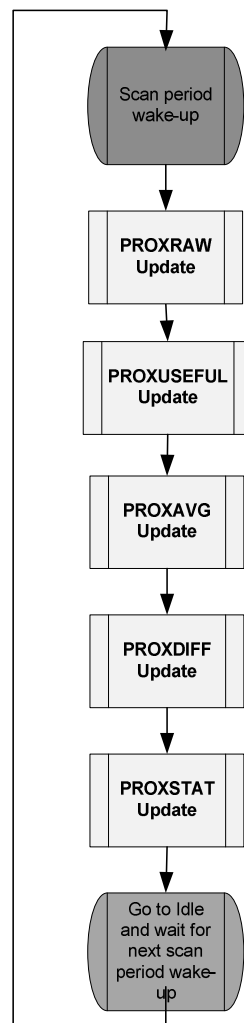

Figure 13: Digital Processing Sequencing
The format of the I2C read is given in Figure 13. After the start condition [S], the slave address (SA) is sent, followed by an eighth bit ('0') indicating a Write. The SX9500 then Acknowledges [A] that it is being addressed, and the Master responds with an 8-bit Data consisting of the Register Address (RA). The Slave Acknowledges [A] and the master sends the Repeated Start Condition [Sr]. Once again, the slave address (SA) is sent, followed by an eighth bit ('1') indicating a Read. The SX9500 responds with an Acknowledge [A] and the read